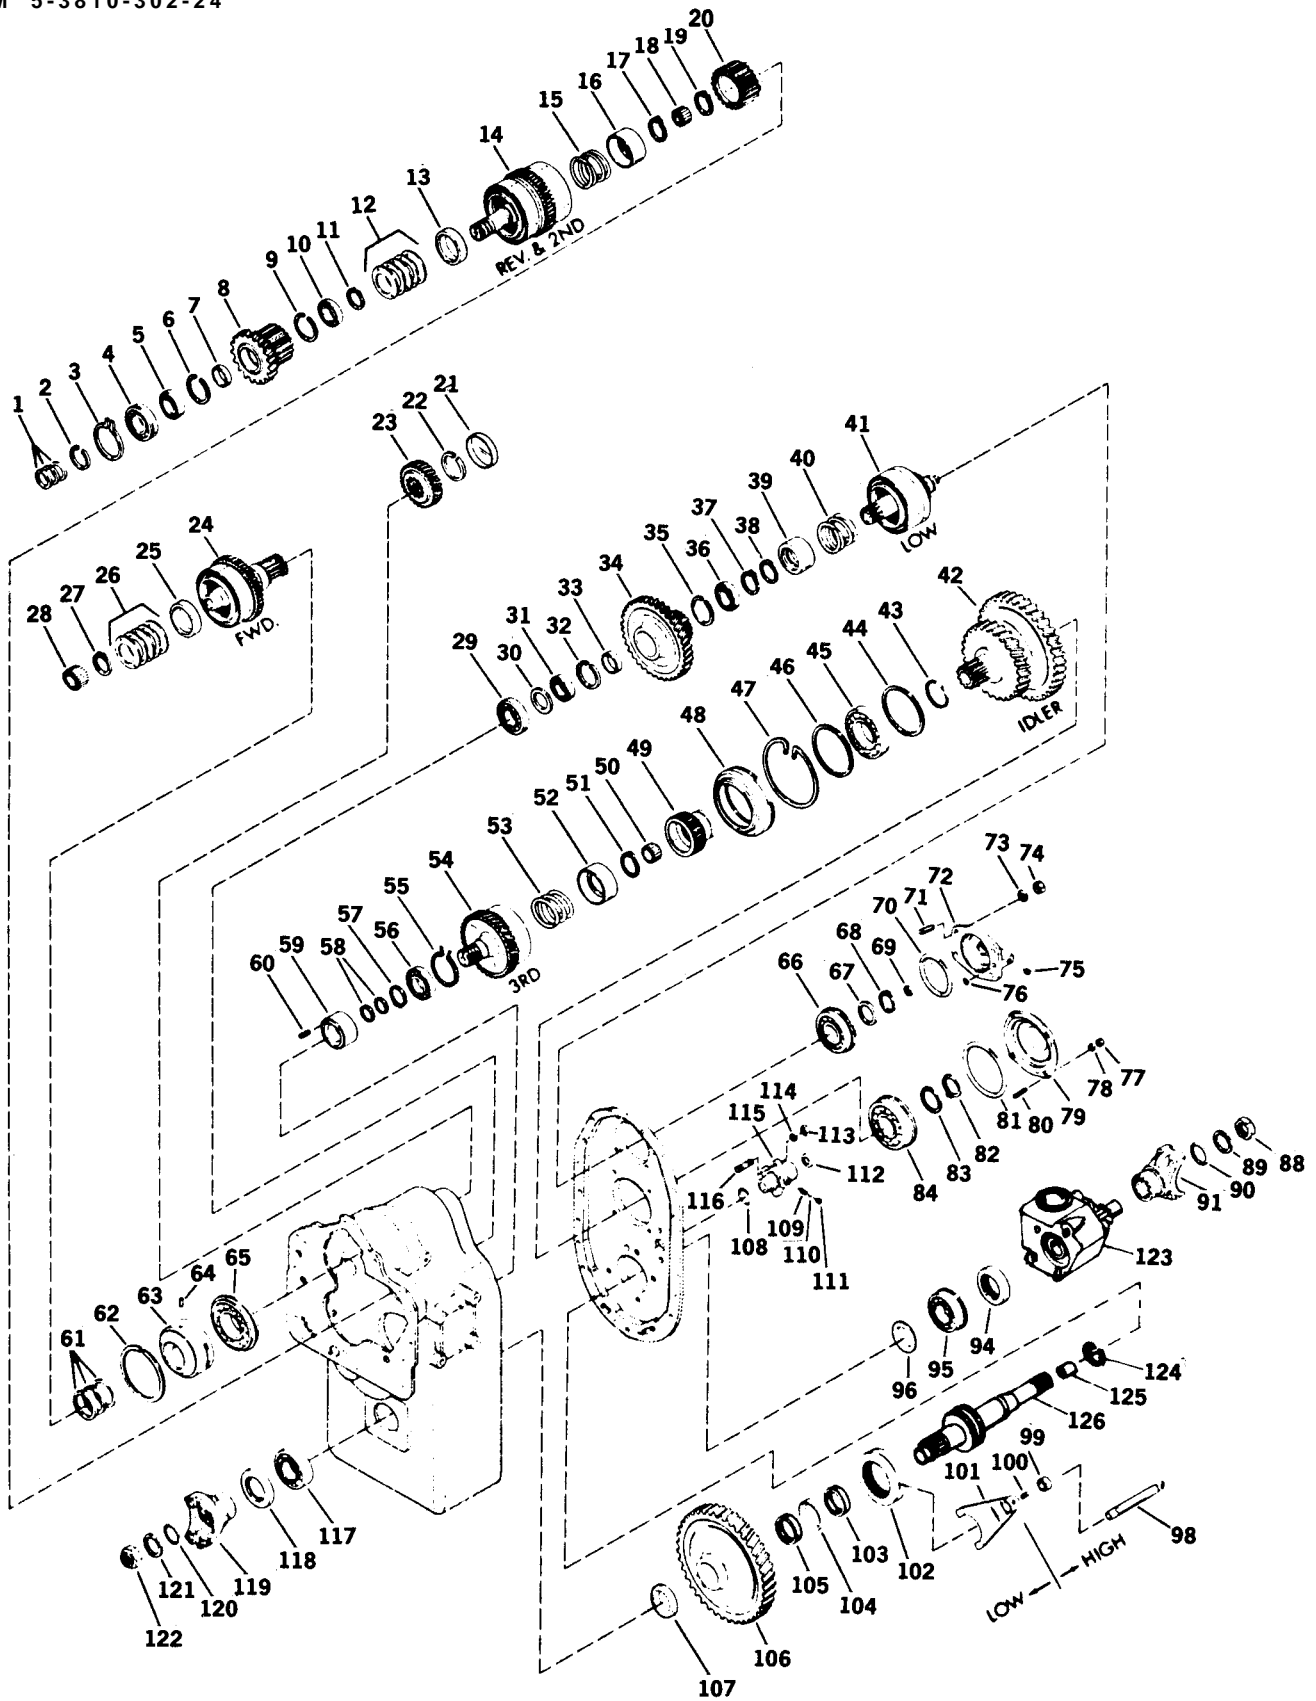
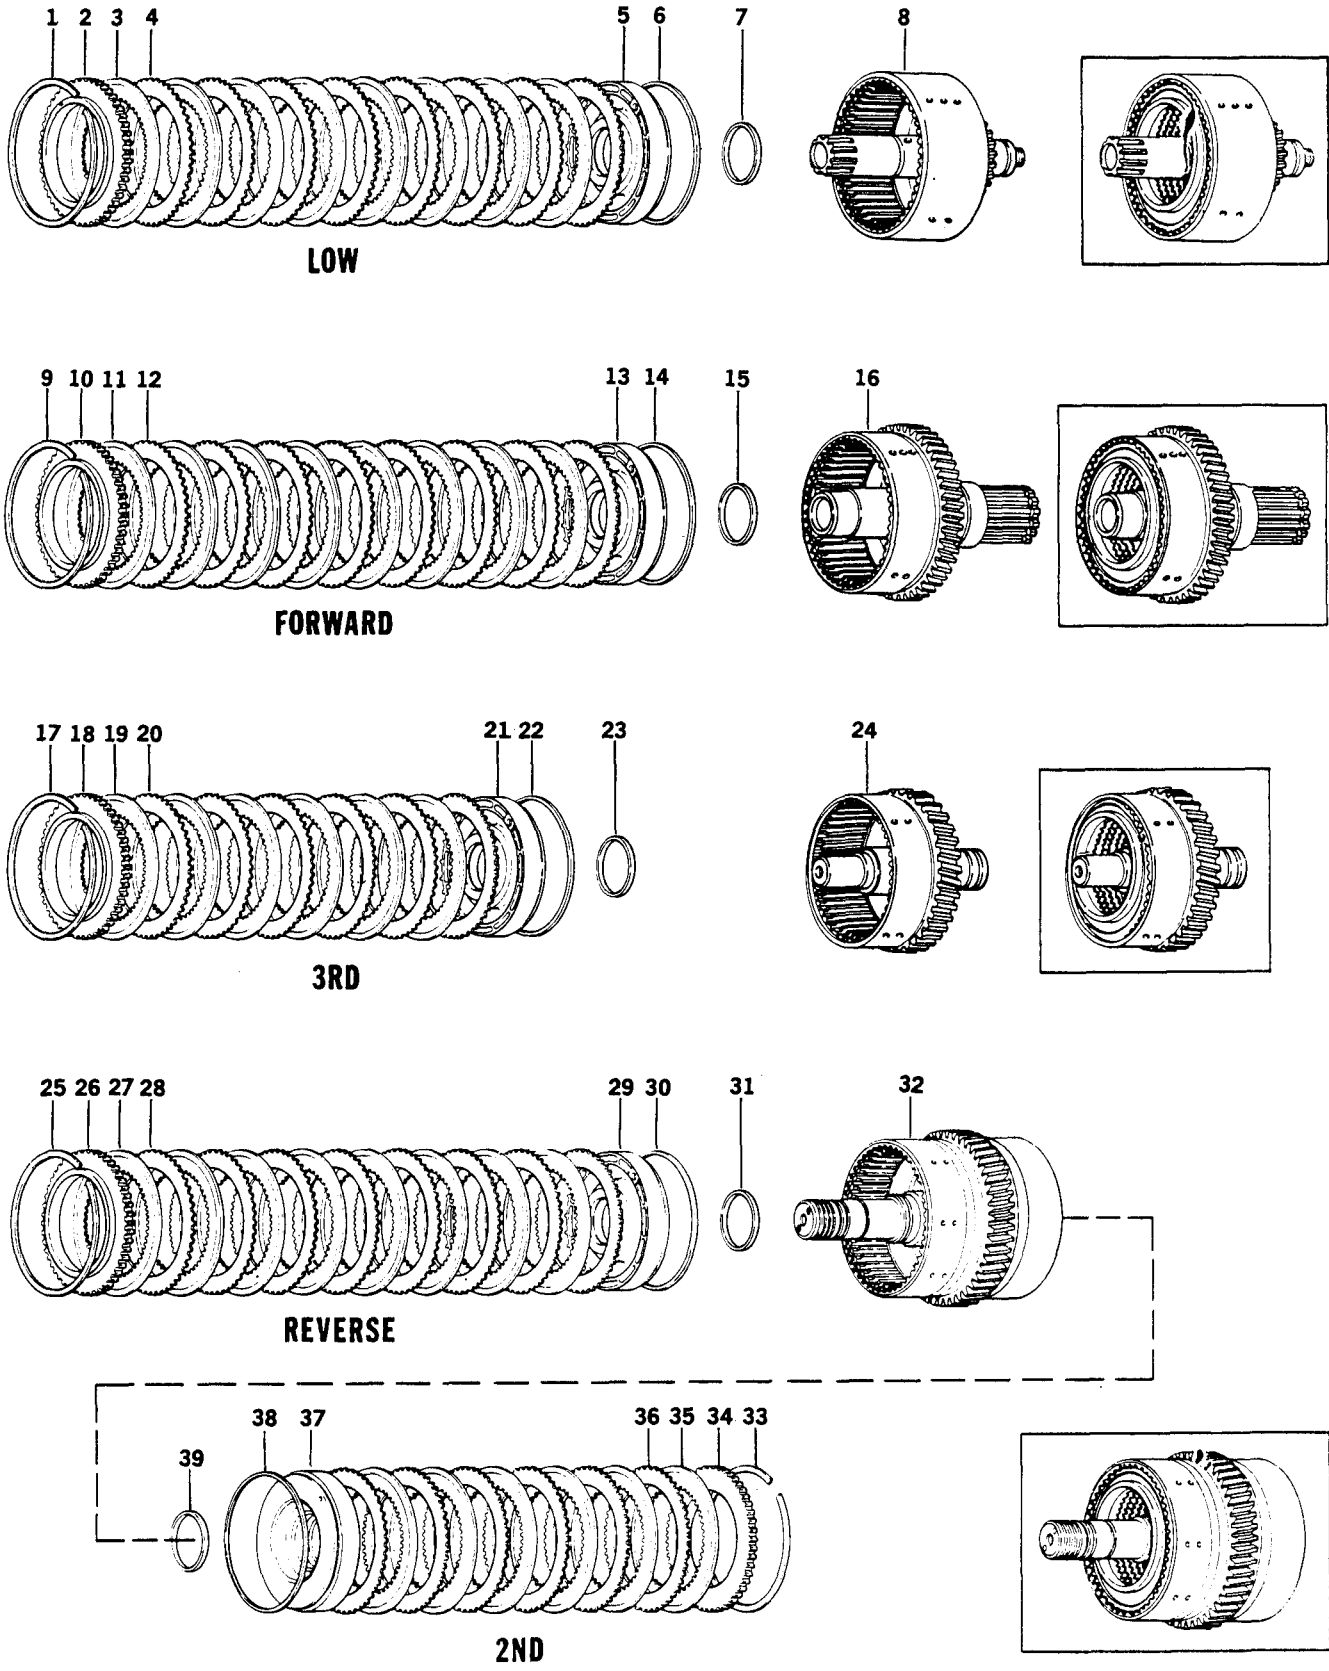

Figure 4-6. Clutch and Gear Group
Figure 4-7. Clutch Group Assembly
- t. Remove retainer ring (68, figure 4-6), washer (67), and bearing (66).
- u. Remove idler shaft and gear (42). Remove shaft fork (101).
- v. Remove nut (122), washer (121), O-ring (120), and flange (119).
- w. Tap output shaft (126) from housing. Remove oil seal (94), bearing (95), thrust washer (96), and hub (102).
- x. Remove oil seal (118), bearing (117), thrust washer (107), and gear (106). Remove bearing (103), spacer (104), and bearing (105).
- y. Remove hub and retaining ring (20).
- z. Compress ears on locating ring (55). Remove ring from ring groove.
- aa. Tap low clutch (41) from housing with soft mallet.
- bb. Contract locating ring (47). From front of transmission, tap 3rd clutch (54) with soft bar and mallet. Remove bearing carrier (48) with bearing (45) and hub (49).
- cc. Remove 3rd clutch (54).
- dd. Remove plug (21), retainer ring (22), gear (23) and tap forward clutch (24) from bearing (65) with soft mallet. Remove forward clutch (24).
- ee. Remove retaining ring (62), sleeve (63), and bearing (65) if needed.
- 4-10 Low Clutch. Disassemble and assemble the low clutch (41, figure 4-6) as follows:
- a. Remove bearing (29), spacer (30), bearing (31), and gear (34). Remove locating ring (32) and spacer (33), retaining ring (37), bearing (36), and locating ring (35).
- c. Retain piston spring (40, figure 4-6) with pipe sleeve. Remove snap ring (38), retainer (39), and spring (40) by releasing pressure on spring.
f. Install spring (40, figure 4-6), retainer (39) and snap ring (38) with pipe sleeve.
g. Install locating ring (37), disc (4, figure 4-7), and disc (3). Alternate discs (4 and 3) until eight of each have been installed.
h. Install plate (2) and snap ring (1).
i. Install locating ring (35, figure 4-6), bearing (36), spacer (33), gear (34), locating ring (32), bearing (31), spacer (30), and bearing (29).
a. Remove rings (1, figure 4-6), retaining ring (2), bearing (4), and gear (8). Use gear puller.
b. Remove spacer (7), retaining rings (6 and 9), and bearings (5 and 10).
c. Remove snap ring (25, figure 4-7), plate (26), and clutch discs (27 and 28). With pipe sleeve, remove snap ring (11, figure 4-6), spring washers (12), and spacer (13).
d. Remove piston (29, figure 4-7). Remove O-rings (30 and 31).
e. Remove snap ring (33), plate (34), and clutch discs (35 and 36). With pipe sleeve, remove snap ring (17, figure 4-6), retainer (16), and spring (15) by releasing pressure on pipe sleeve.
f. Remove piston (37, figure 4-7). Remove O-rings (38 and 39).
h. Install piston (37) being careful not to damage O-rings.
i. Install spring (15, figure 4-6), retainer (16) and snap ring (17) using pipe sleeve.
j. Install disc (36, figure 4-7) and disc (35). Alternate discs (36 and 35) until six of each have been installed.
k. Install plate (34) and snap ring (33).
l. Install piston (29) being careful not to damage O-rings.